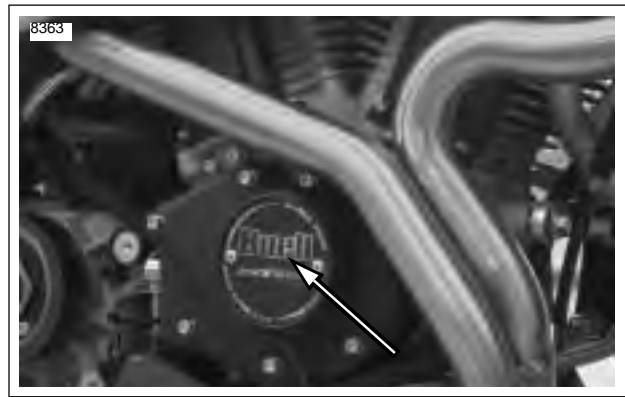

Figure 1-44. Timer Cover
1. See Figure 1-44. Remove timing plate cover.